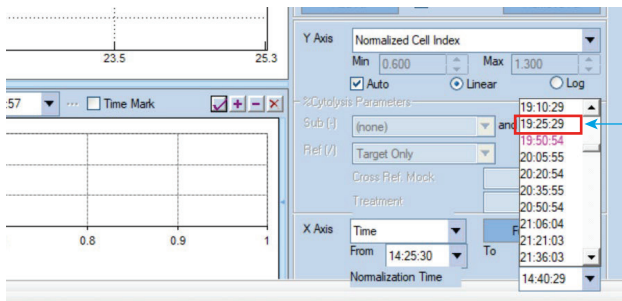

Figure 5. Select the time point just above the highlighted one.
4. **Using the drop-down:** The software will detect breaks in the readings and mark them in a different color (Figure 5). The value in the pink font corresponds to the first reading after the plate was returned to the device (i.e. after adding the treatments). Normalize at the time point just before the highlighted time, which corresponds to the last time when all the conditions are theoretically identical (that is, just before the treatments are added).